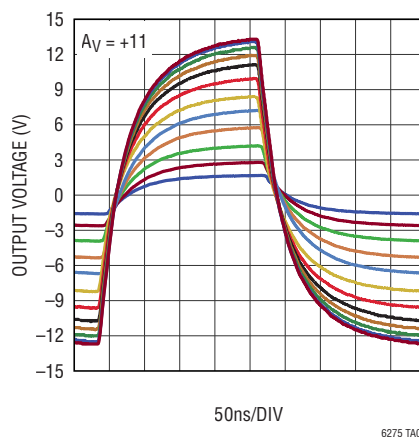

Figure 2. Noninverting Amplifier Step Response ($A_V = +11V/V$)
Figure 2 shows the output response to varying input step amplitudes. Note that none of the exponential responses is limited by the initial slew rate (which increases with increasing amplitude).
As a particular example, with $A_V = +11V/V$, 15V output excursion, and 40 MHz GBW, Equation (3) predicts a maximum slew rate of 343V/ μ s. Measurement on the corresponding curve in Figure 2 shows 390V/ μ s, which is in good agreement with the prediction. As another example, with an 18.5V output excursion, the predicted maximum slew rate is 423V/ μ s; measurement shows 460V/ μ s.
As the peak to peak voltage of the input step changes, the maximum initial slew rate changes. The 63% rise time of the closed loop response, however, does not change (as seen in Figure 2), because the closed loop bandwidth stays constant for all input amplitudes.